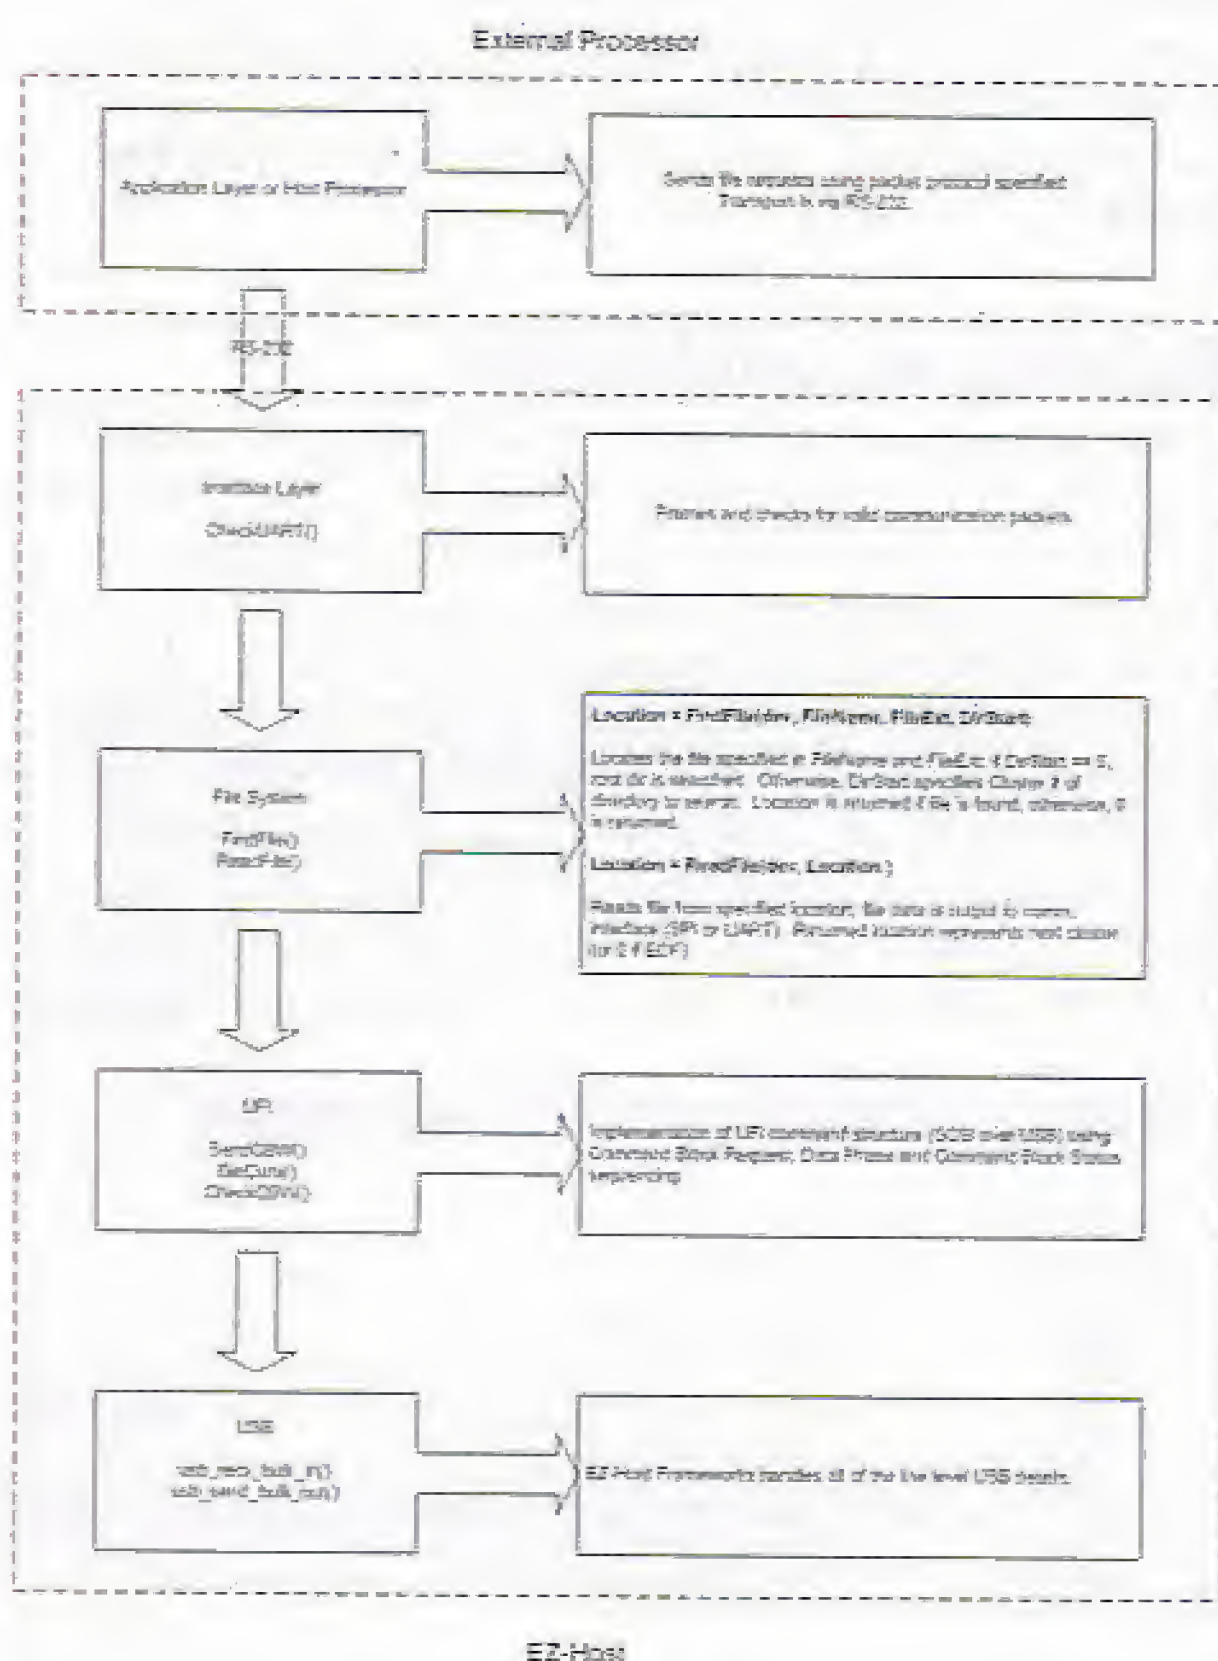

Figure 5: Simple
**Figure 5** shows the hierarchy of the EZ-Host firmware. An external processor or application can communicate with the interface layer via RS232. Application code can be written to provide an API between the interface layer and the FindFile and ReadFile functions. One possible interface layer is shown in **Figure 6**. Here, the UART is checked for a one byte Op Code followed by a filename, file extension and directory start location. An Op Code of '1' causes the FindFile function to be executed. An Op Code of '2' signifies a file read operation.